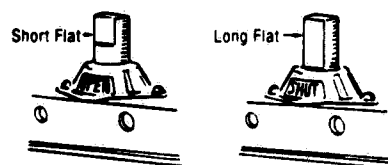

Figure 7-10. PINION ASSEMBLY ORIENTATION.
**NOTE:** Before proceeding, rotate the pinion assembly to ensure that it is properly aligned. The pinion assembly should rotate a full 90° and the short and long flats of the pinion assembly should be oriented as shown in Figure 7-10.